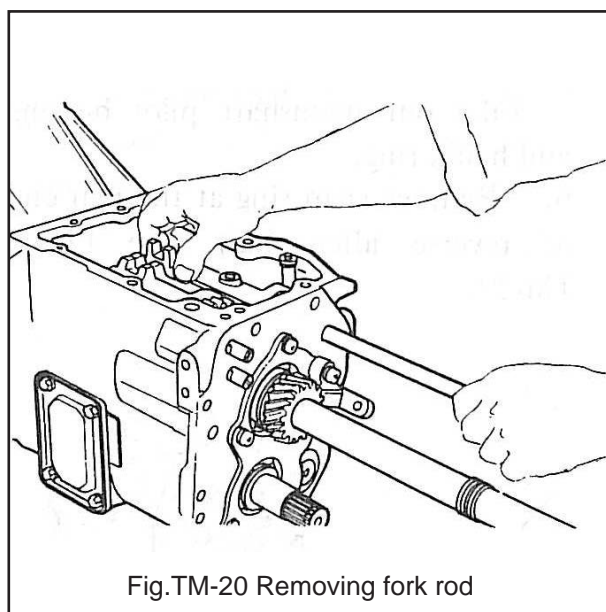

Fig.TM-20 Removing fork rod
3.Drive out three fork rods to the rear side of transmission case, and take out two forks and reverse shift fork.See Figure TM-20.